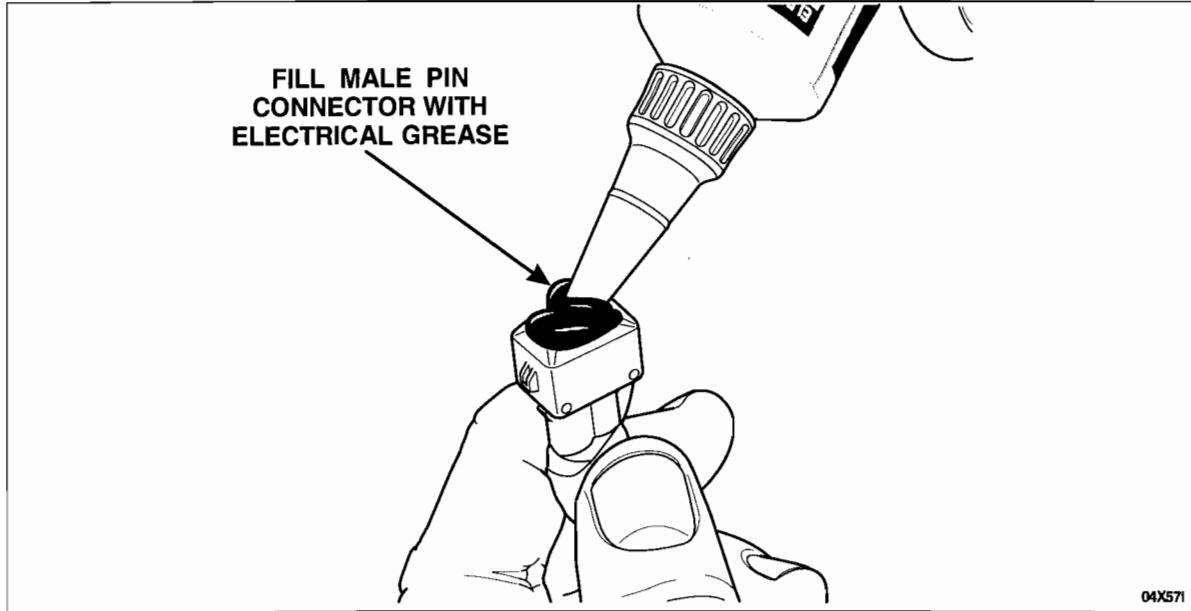

FIGURE 6
9. Before installing the jumper harness, fill the vehicle harness end of the jumper (male pin connector end) with Motorcraft Electrical Grease II XG-15-A. See Figure 6.